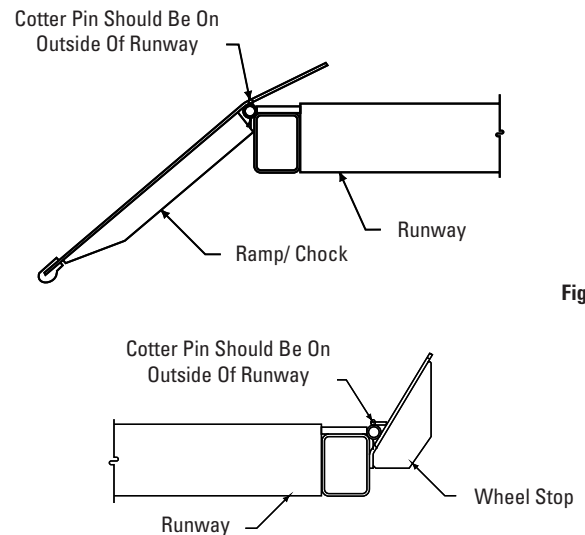

Fig. 33
28. Assemble ramp/chocks and wheel stops to runways using hinge pins and cotter pins. Ramp chocks go on rear and wheel stops go on front of runway, Fig. 33.